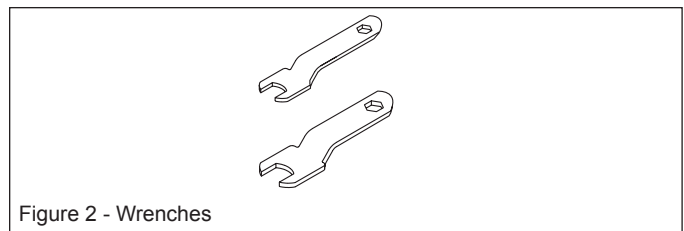

Figure 2 - Wrenches
2. Securely tighten collet with wrenches (See Figures 2 & 3).